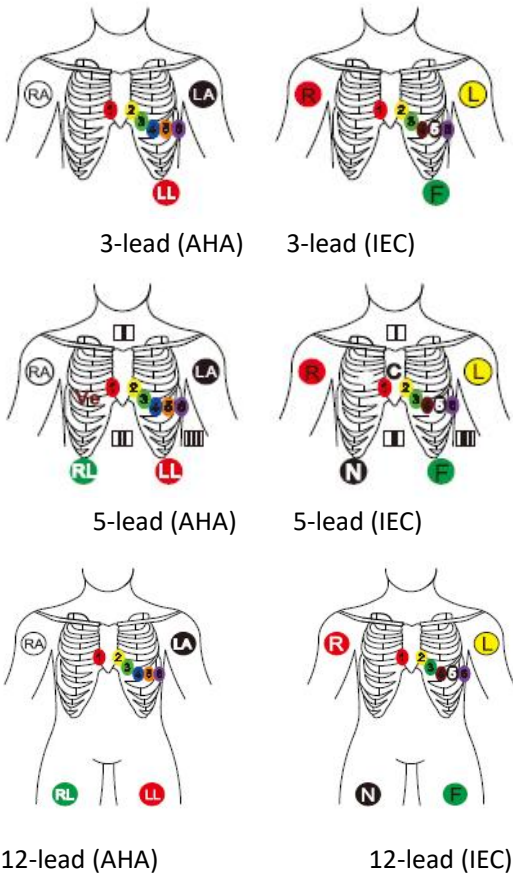

Figure 1 Electrode placement
- Refer to Figure 1 to place the electrodes to all correct positions on the patient.